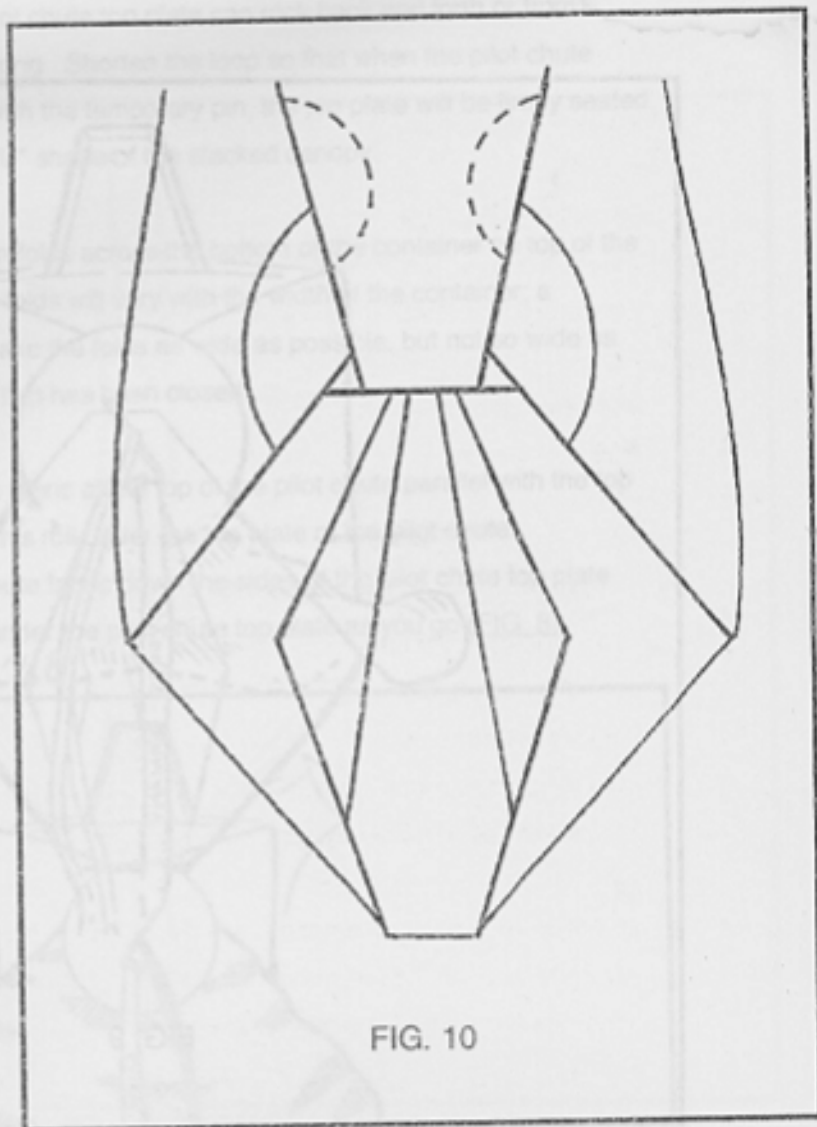

FIG. 10
14) Using the packing paddle push the fanned out pilot chute fabric under the bottom closure flap to leave a clean and tidy pack job. Seal the reserve container and log the work done on the packing data card and in your rigger's logbook. Place the completed data card in the pocket provided on the underside of the reserve top flap cover. Secure the top flap cover over the top flap by inserting the tongue on each side under the top flap and insert the bottom of the top flap into the protector pocket. (FIG. 10).